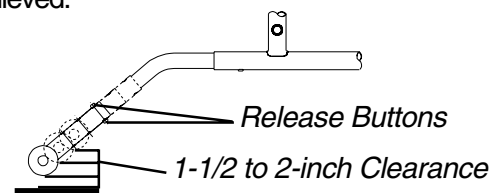

FIGURE 3 - ADJUSTING THE ANTI-TIPPERS
### Adjusting The Anti-tippers (FIGURE 3)
2. Press the release buttons near the wheeled portion of the anti-tipper and slide it up or down to achieve the 1-1/2 to 2-inch clearance (FIGURE 3).